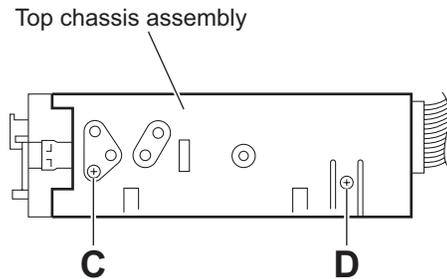

Fig.5
- From the both sides of the main body, remove the two screws **C** and screw **D** attaching the top chassis assembly. (See Figs.5 and 6.)